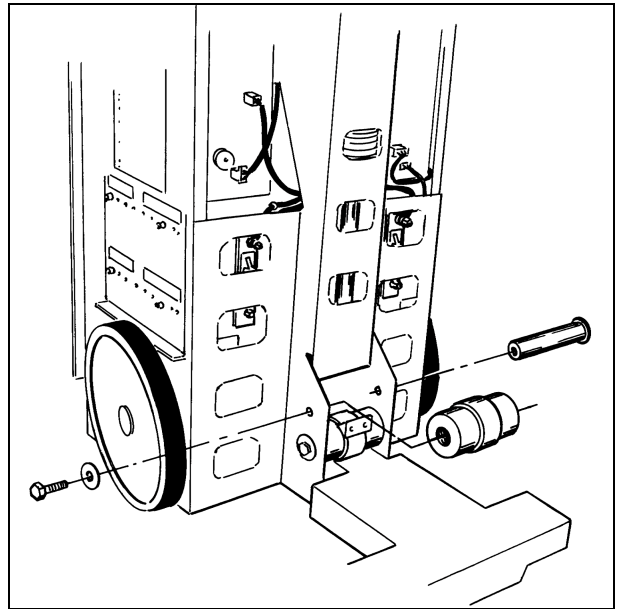

Fig. 30
- Remove the screw and washer from the upper counter bearing (Fig. 30).